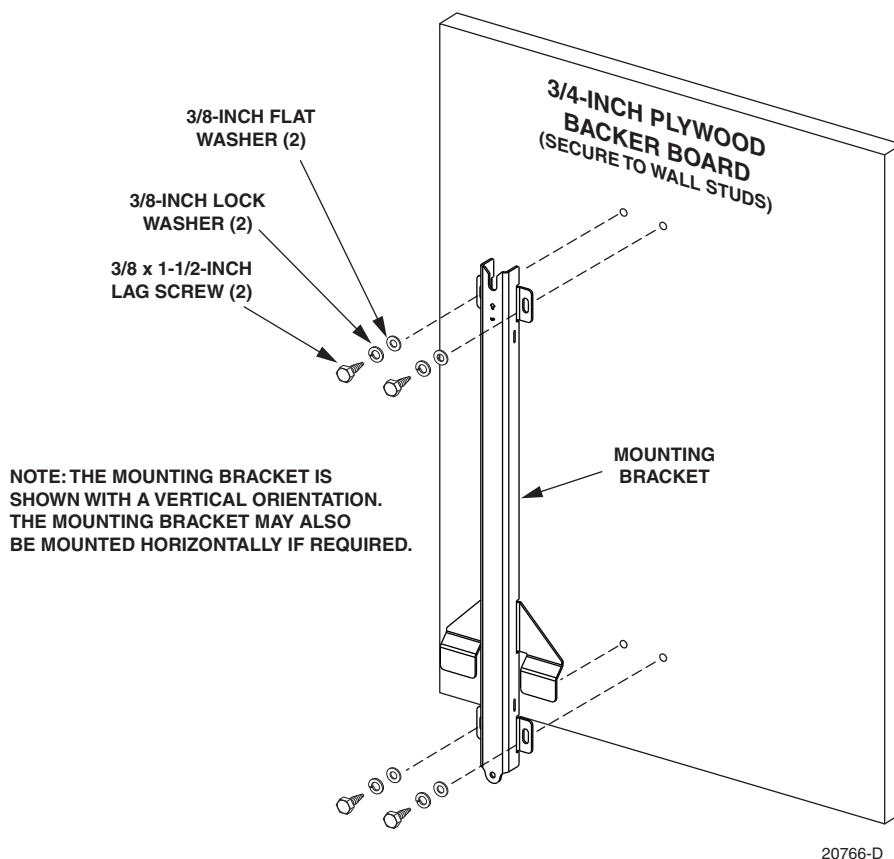

Figure 3-3: Secure Standard Mounting Bracket To Plywood Backer
- 2 Hold the enclosure mounting bracket in position for installation on the plywood backer as shown in Figure 3-3. The end with the V-notch should be at the top.